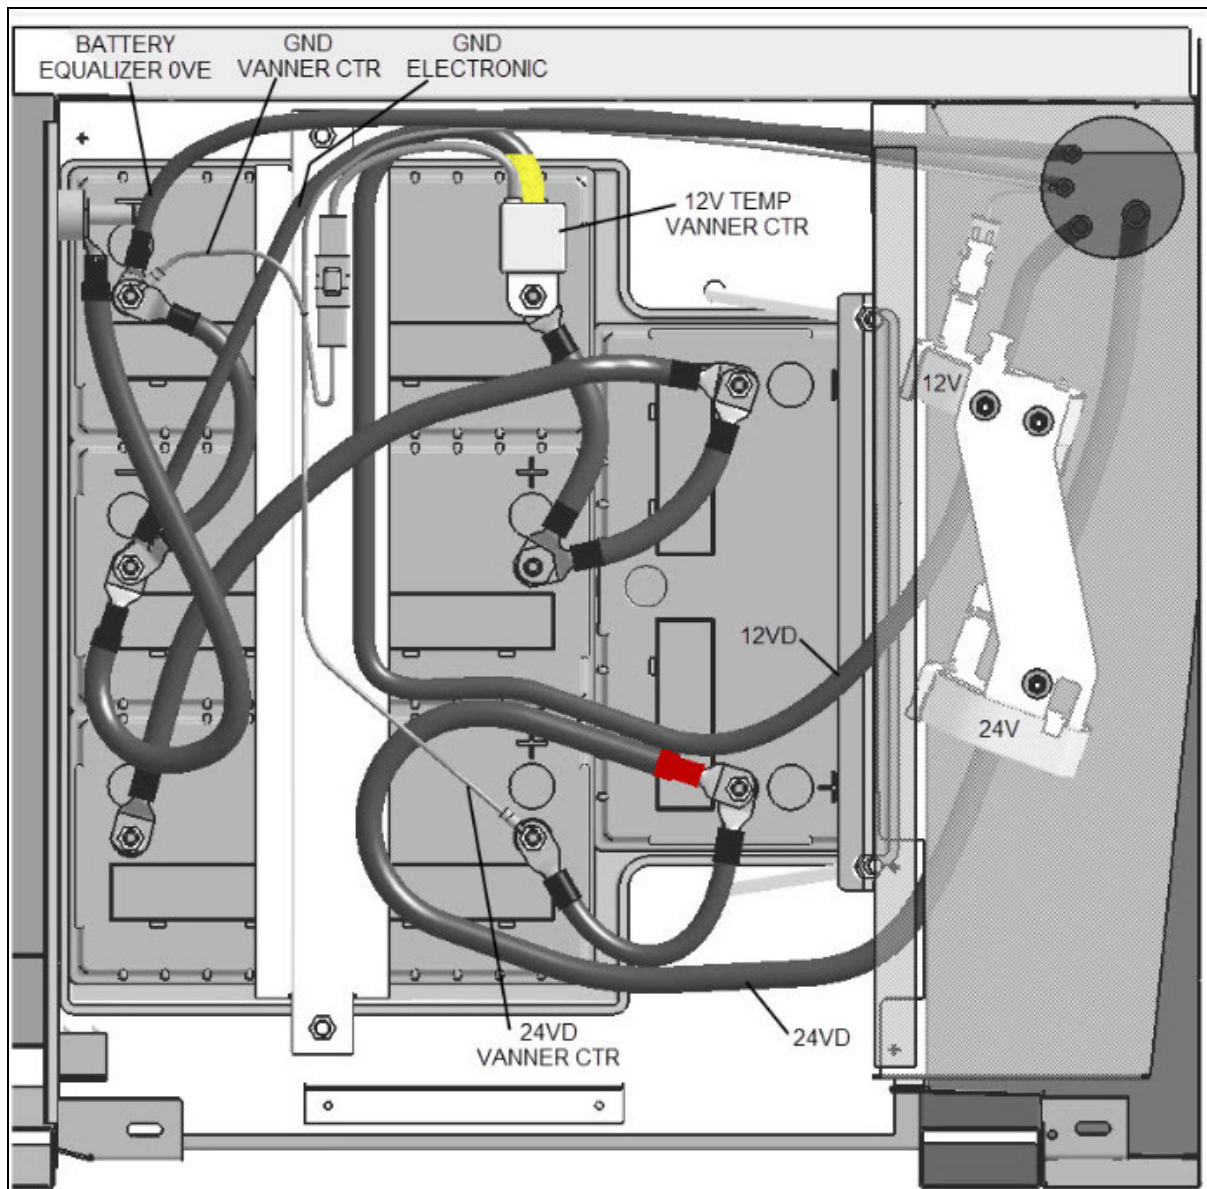

FIGURE 12: H3 SERIES AGM BATTERY CONNECTIONS (PRIME SYSTEM)
If your vehicle is equipped with PRIME energy management system, it is provided with four (4) Absorbed Glass Mat (AGM) 12-volt batteries connected in series-parallel (FIGURE 12).